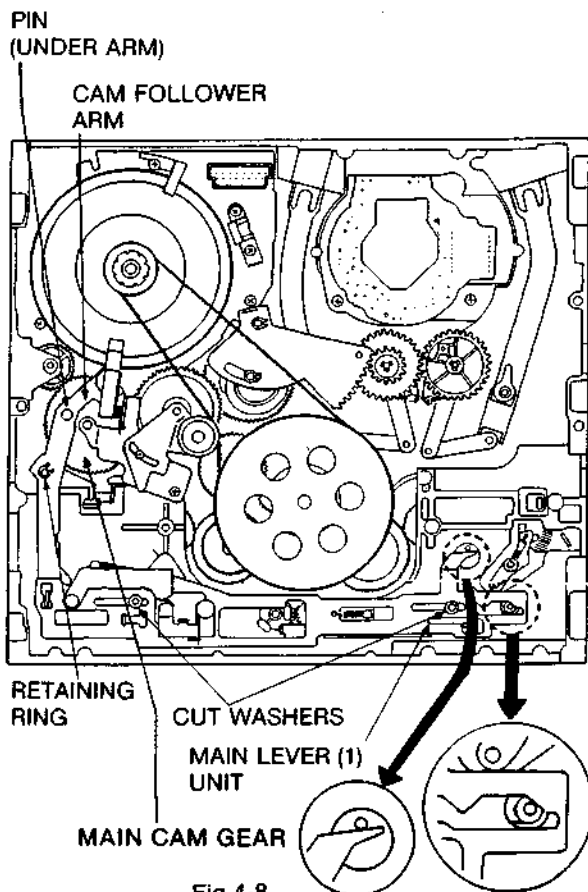

Fig. 4-8
4.5 Assembly procedures of main lever (1) unit and cam follower arm unit
- Install cam follower arm unit pos. no. 109(2) so that the pin of cam follower arm insert to the groove of main cam gear then insert a retaining ring (5322 530 74076).
- Install main lever unit (1) pos. no. 103(2) unit and then insert cut washers pos. no. 100(2) as shown in Fig. 4-8.